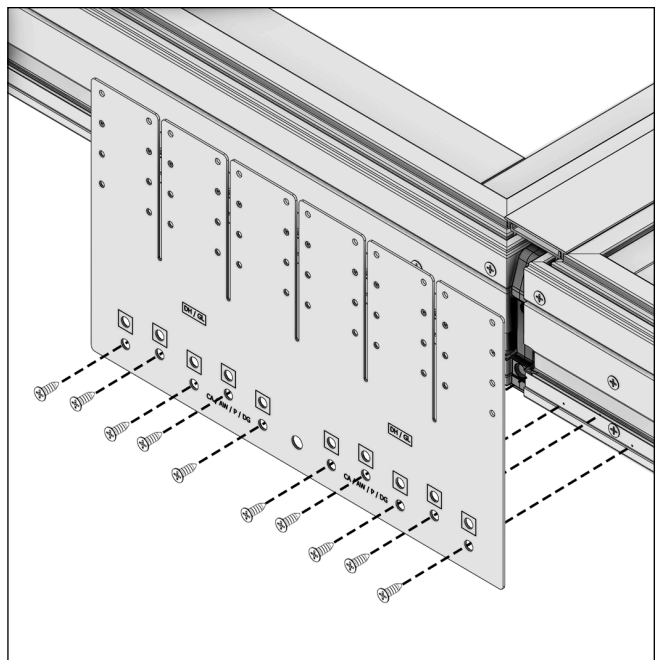

Figure 61 Full gusset installation
3. Fasten the full gusset with the supplied #7 x 1/2" flathead screws. Do not over-tighten. See Figure 61.